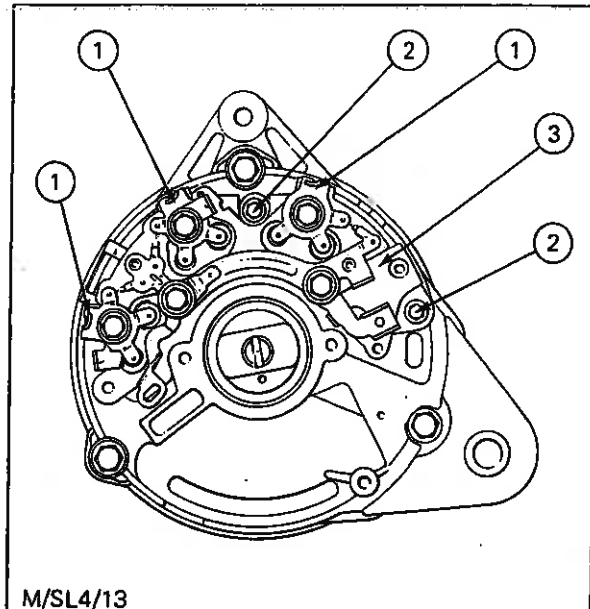

Fig. 16 - Removing Rectifier Assembly
5. Unsolder and remove the three stator leads (1). Remove the two remaining screws (2) and lift off the rectifier assembly (3) - see Fig. 16.